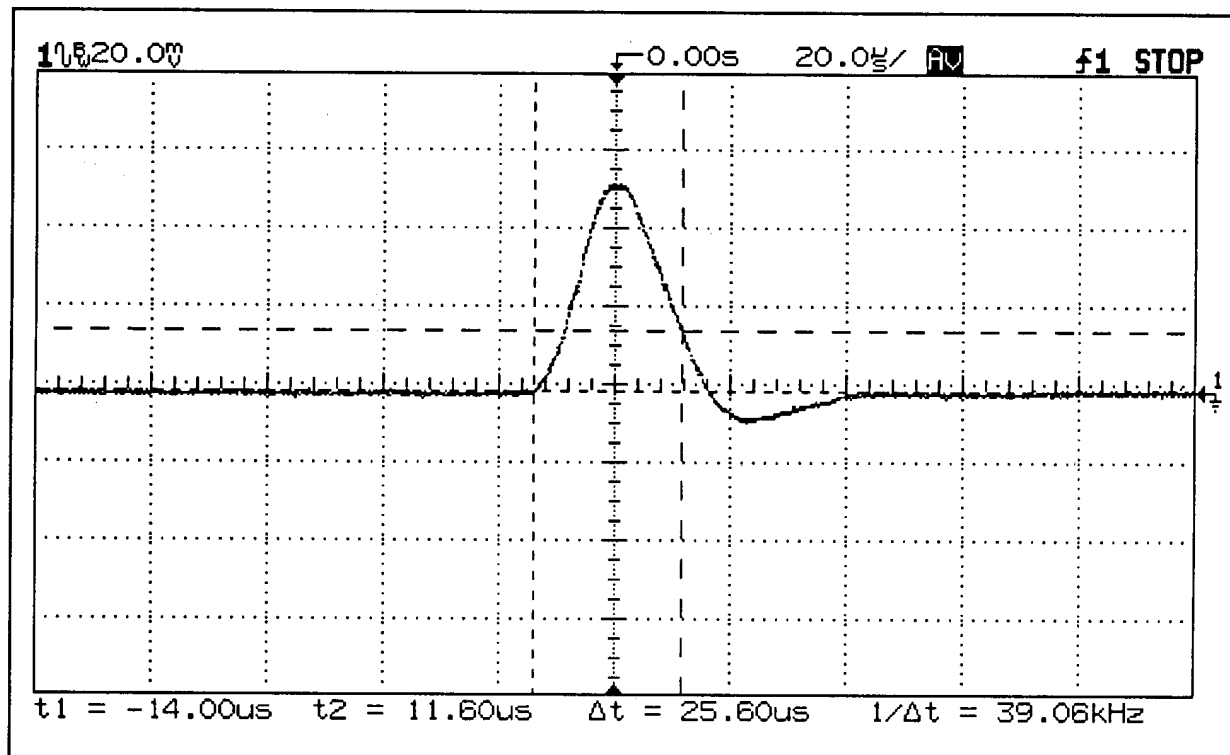

Figure A-9. Load Transient Response Time Waveform
- f. Adjust the oscilloscope to display transients as shown in Figure A-9.